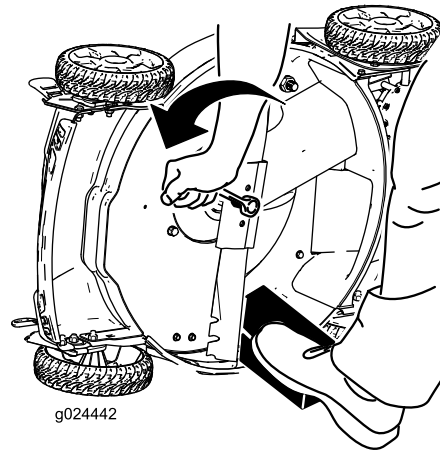

Figure 31
3. Use a block of wood to hold the blade steady (Figure 31).
4. Remove the blade by turning the blade bolt counterclockwise, saving all mounting hardware to install the new blade (Figure 31).